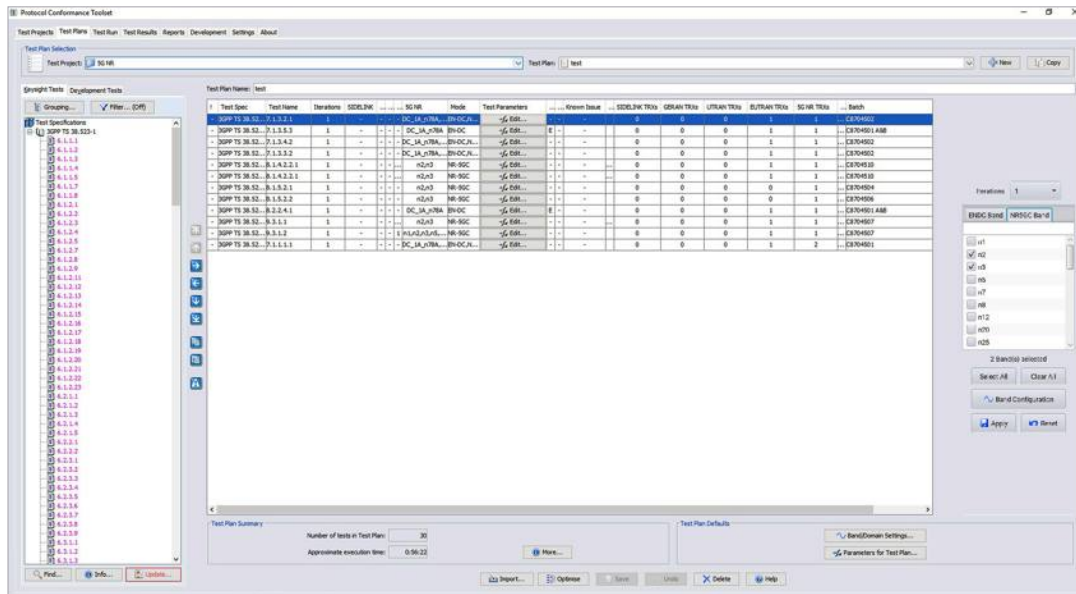

Figure 3: Create and configure a test plan
A Test Plan is a sequence of test cases that can be executed against the selected Test Project. A Test Plan is created by moving test cases from left to right using arrows as can be seen in Figure 3. Each Test Project can be linked to one or more Test Plans. There is no limit to the number of Test Projects that you can create.
- Filtering of test cases by number of cells required, GCF work item/PTCRB RFT, category and Keysight validation status, see Figure 3.